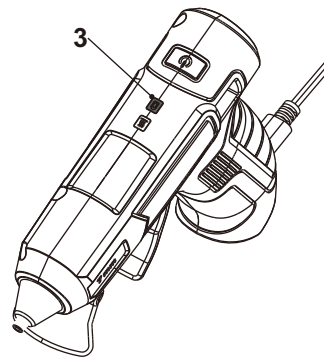

Fig. 5
2. Plug the power adaptor (10) into a plug socket.
- Charging: The charging status indicator (3) turns red (Fig. 5).
- Fully charged: The charging status indicator (3) turns green and the charging time is approx. 3 - 5 h.
5. Remove the charger cable (11) from the product.